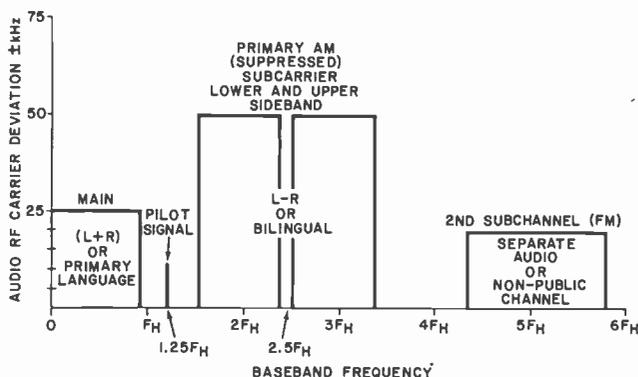

Fig. 2. Complete signal used in Telesonics TV audio system.
**Odd-Multiple Subcarrier.** Telesonics, a small Midwest company, was formed for the sole purpose of promoting its stereo/bilingual TV broadcast system. The baseband frequency distribution is illustrated in Fig. 2. In this system, a double-sideband suppressed AM subcarrier is used to modulate the main carrier with stereo difference or bilingual information. The system is very similar to the